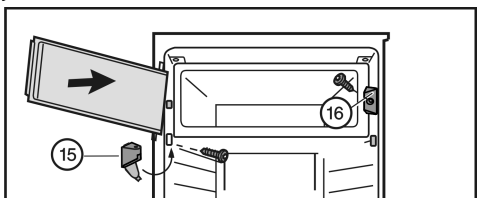

Fig. 8
- Fit closing element *Fig. 8 (16)*.
- Fit turn hinge *Fig. 8 (15)* and fold the cover.